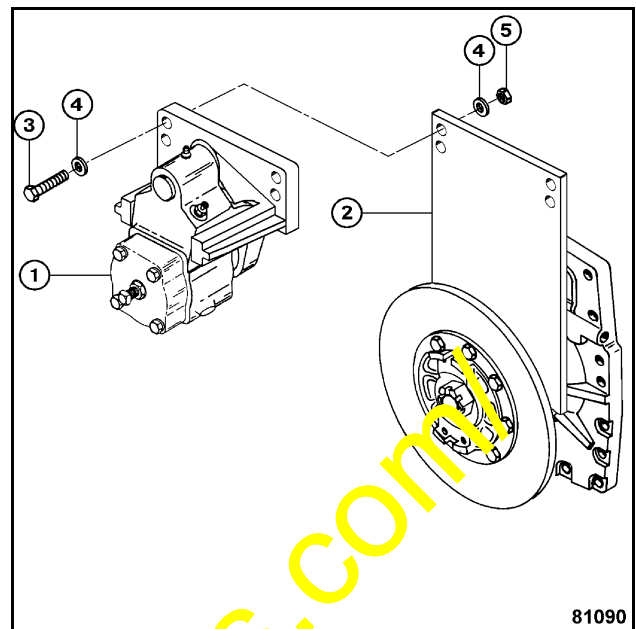

Figure 2
1. To replace drive shaft, remove eight ferris head bolts and lock washers (1) securing drive shaft (2) to input yoke of differential (3) and transmission output yoke (4).
2. To replace output yoke of transmission, remove bolt (5), washer (6), o-ring (7), yoke (4) and oil seal (8). Discard o-ring, yoke and oil seal.
3. Install new 75991 oil seal (8), new 1438018H91 yoke (4), and a new 149506 o-ring. Reuse washer (6) and bolt (5). Tighten bolt to 170 lbf ft.
4. Remove parking brake caliper (1, Figure 2) from bracket (2) by following removal instructions in Shop Manual K-04.30.